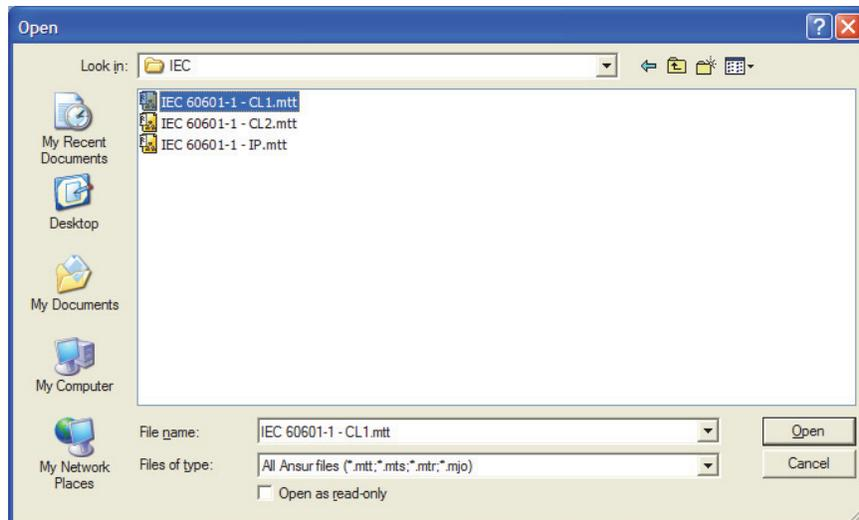

Figure 3-3. Choose a Ready-Made Test Template
3. Double-click the ESA615 folder to open a dialog box that shows the folder names of the most common medical standards and regulator boards as shown in Figure 3-3.